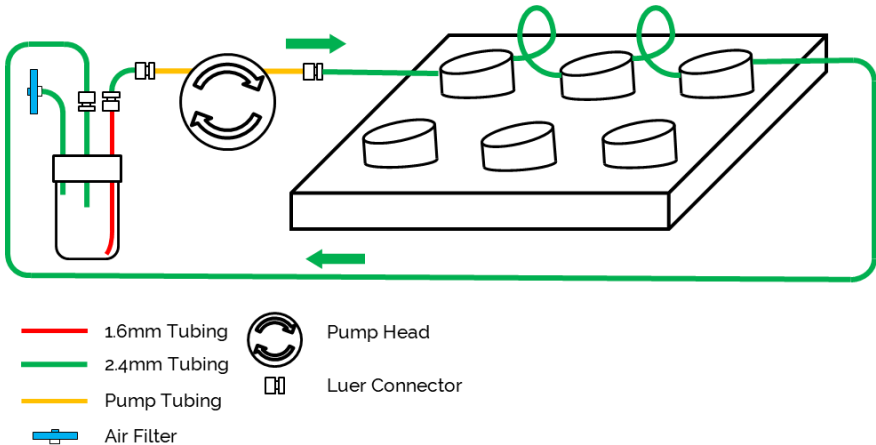

Figure 1. Example of the QV900 circuit with three chambers.
3. Construct your Quasi Vivo® circuit, working around the circuit from the pump tubing in the direction of flow using the correct sized tubing, as indicated in Fig. 1.